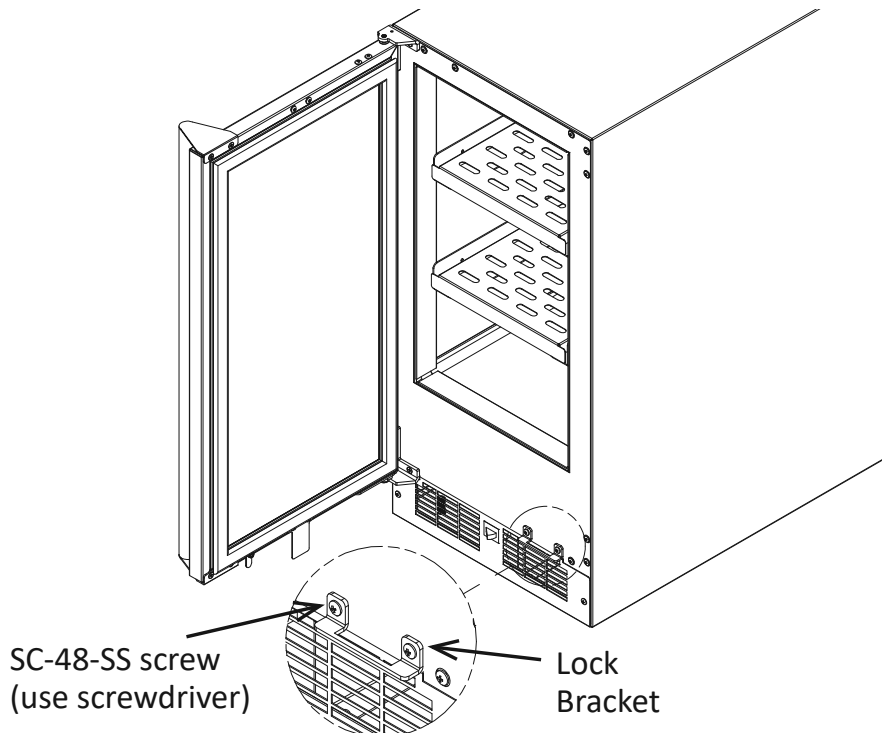

FIG. 13
Step 11. Finally attach the Lock Bracket to the lower right corner using the SC-48-SS screws, removed in Step 1. See figure 13.